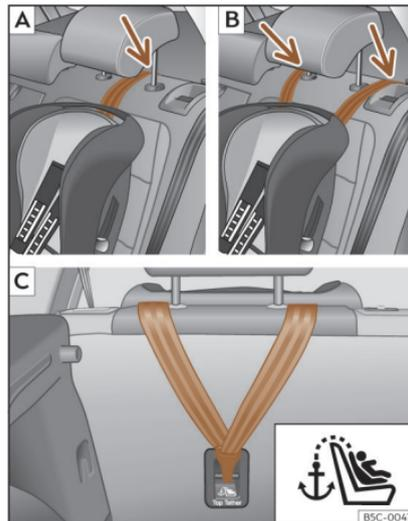
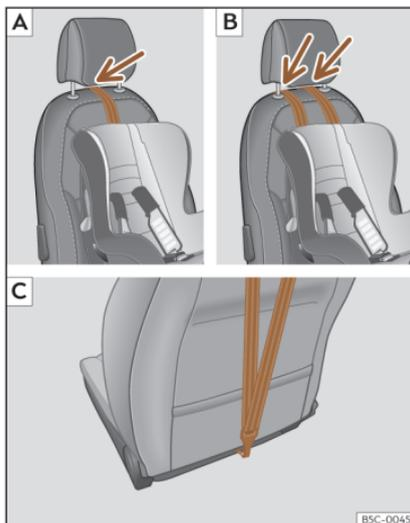

Fig. 37 Rear seats: adjustment and assembly according to the Top Tether belt.
Fig. 38 Front passenger seat: adjustment and assembly according to the Top Tether belt.
- Position the belt under the headrest (depending on the instructions of the seat itself, lift or remove the headrest if necessary) >>> **Fig. 37** [A]/[B], >>> **Fig. 38** [A]/[B].
- Slide the strap and secure it properly with the anchorage of the backrest >>> **Fig. 37** [C], >>> **Fig. 38** [C].